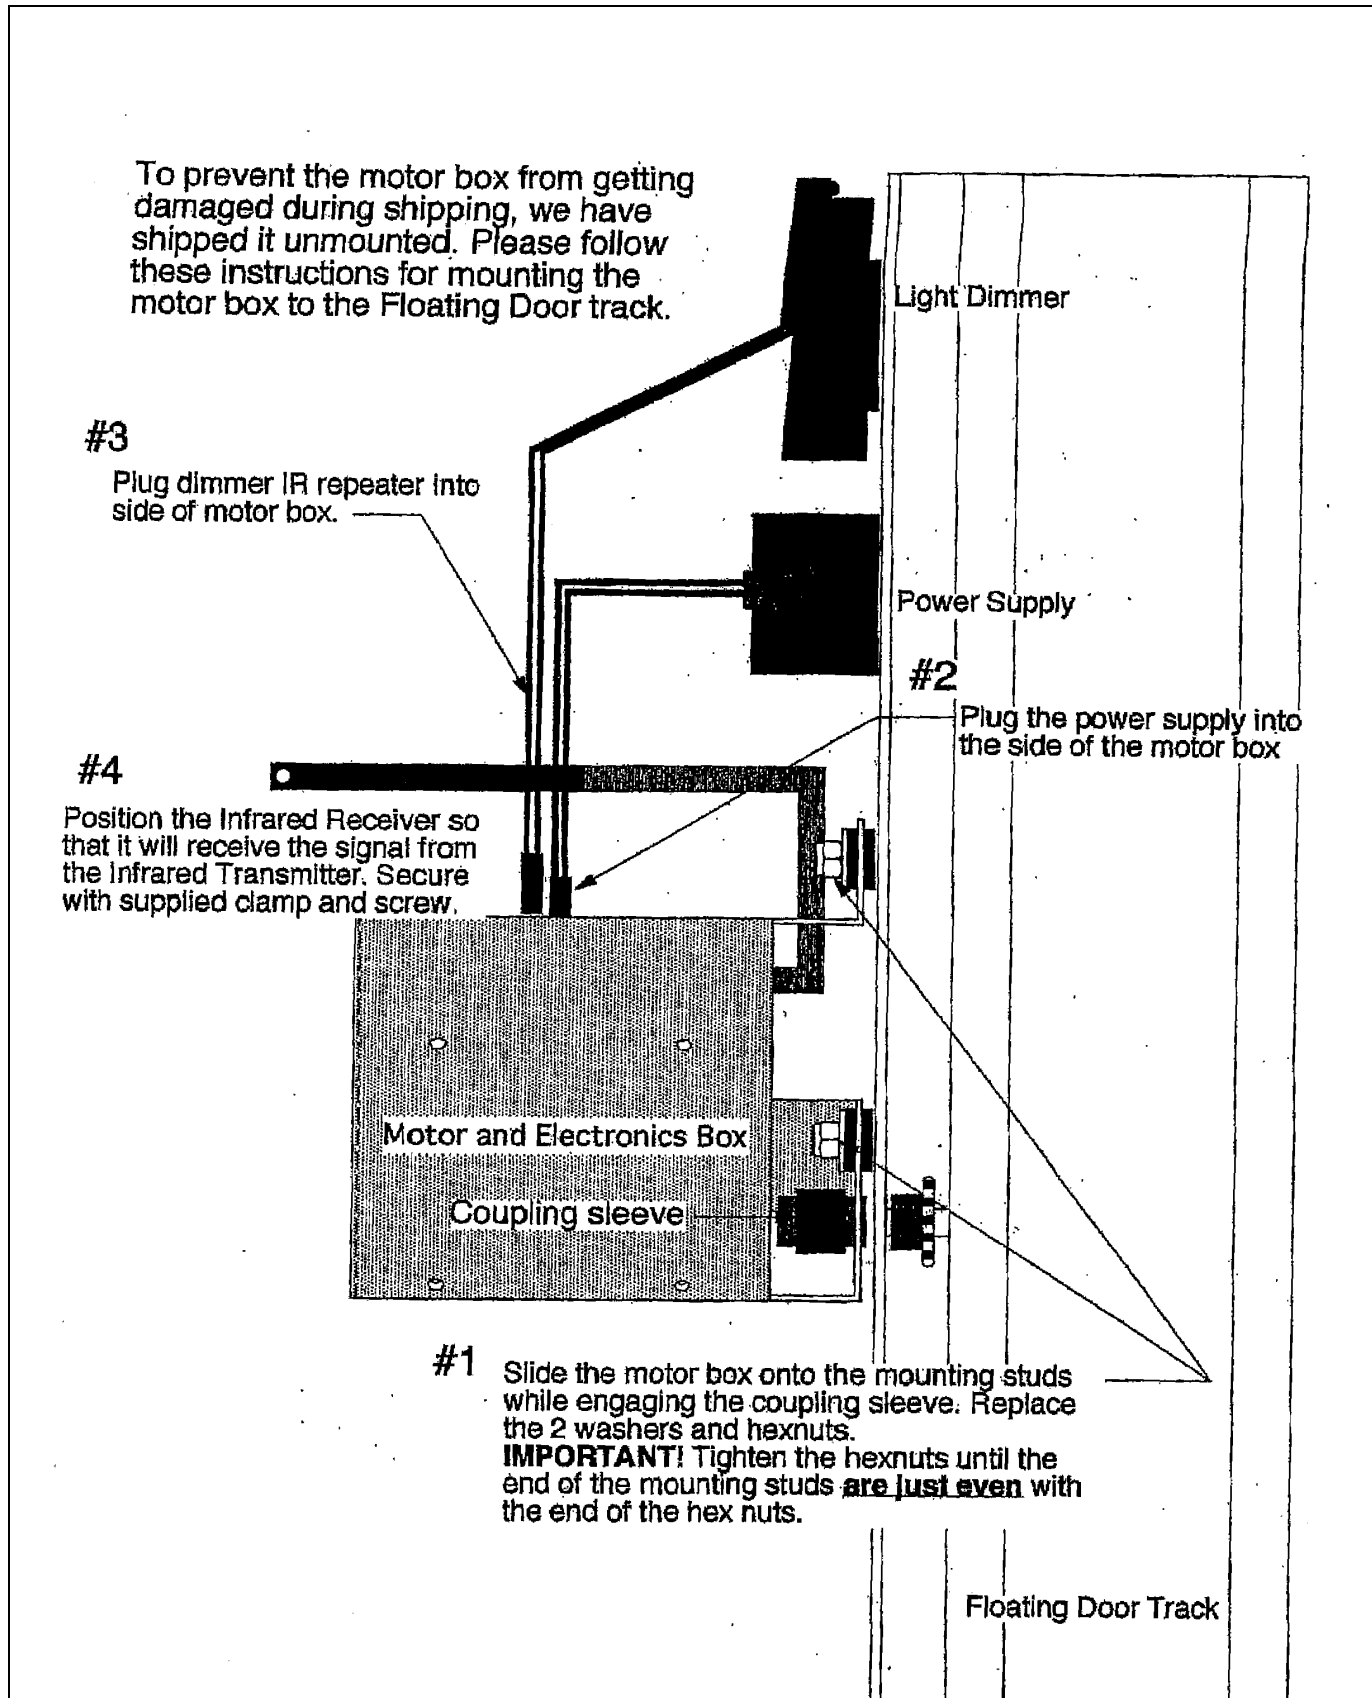

Figure 2
4. Attach motor box to the track following instructions in box. (See Figure 2)